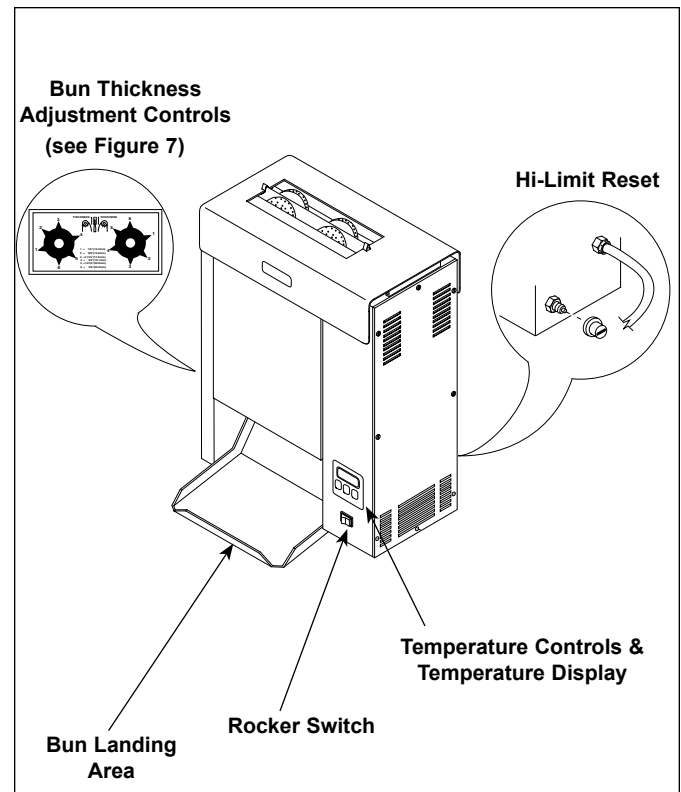

Figure 5. VCT-20 Toaster
2. Turn the rocker switch on (Figure 5). Allow 30 minutes warm-up time before proceeding.
NOTE: The temperature display (Figure 5) will flash "LO" until preset operating temperature is reached. When the toaster approaches the preset temperature of 560°F (243°C), "560°F" will appear in the temperature display and the unit is ready to toast buns.
3. Drop buns into toaster (Figure 5). **Cut sides of heel and crown must face each other (crown in front, heel in back).**
4. Toasted product will drop into the bun landing area (Figure 5).
A hi-limit thermostat will turn off electrical power to the heater and control circuits if the unit overheats. To reset this thermostat, allow sufficient time (10-15 minutes) for the unit to cool down, then depress the reset button located on the rear of the unit (Figure 5).